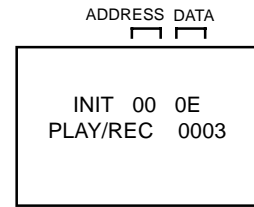

Fig. 1
3. Press both CH UP button on the set and the FF button on the set for more than 2 seconds. ADDRESS and DATA will appear on TV Monitor as **Fig 1**.